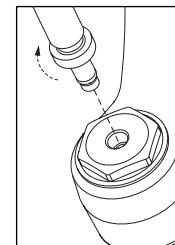

Fig.4
- Using the RockShox air pump with the SID adapter, screw the pump/adapter into the top cap (Fig. 4).